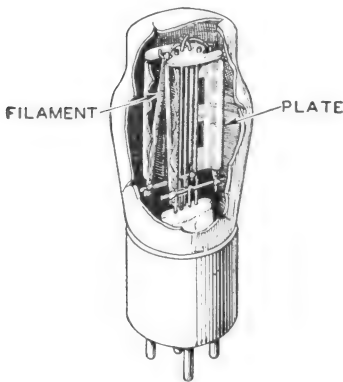

Fig. 18. Full-Wave Rectifier Tube
**Full-Wave Rectifier Tube.** A vacuum tube that has a *filament* and two separate *plate elements* is required with full-wave rectification. The construction of an early rectifier tube is shown in Fig. 18. The two filaments inside the glass bulb are joined in series with each other. The principle of the *full-wave rectifier* is identical with that of the half-wave rectifier. The difference lies in the fact that both sides of the wave are converted, one of them being transposed to the opposite side of the zero potential line.